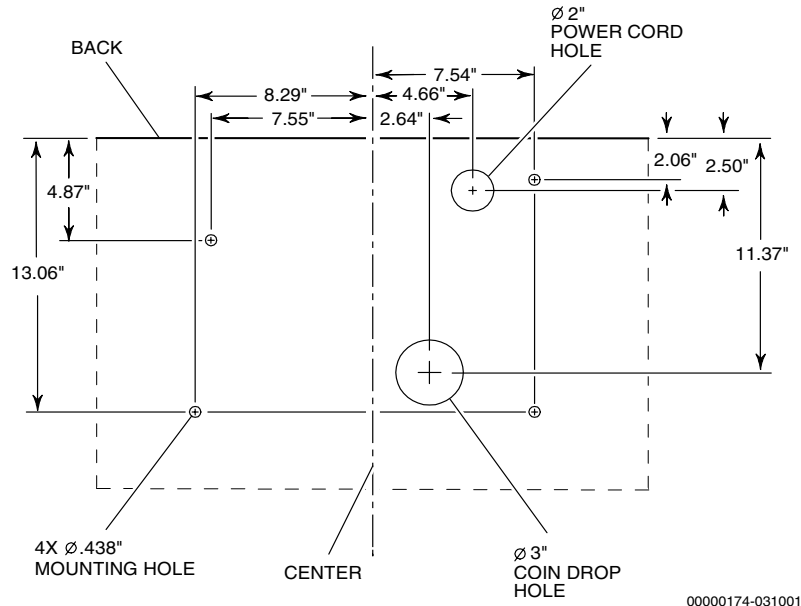

Figure 2-2. Base Dimensions – Game King 13" Upright
- Base Dimensions – Figure 2-2